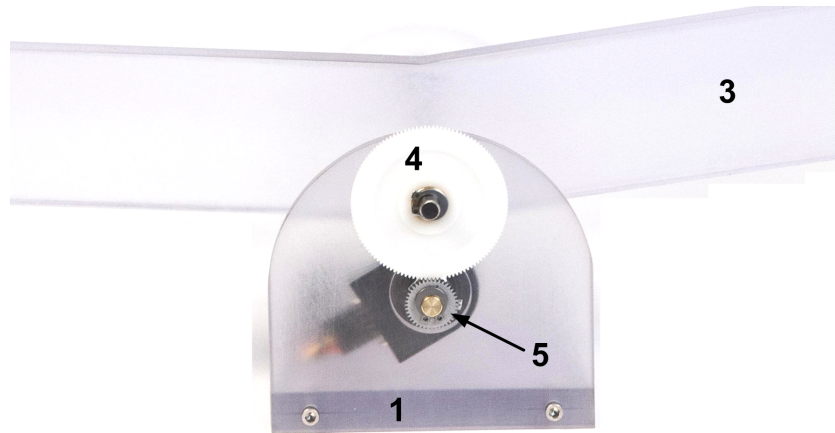
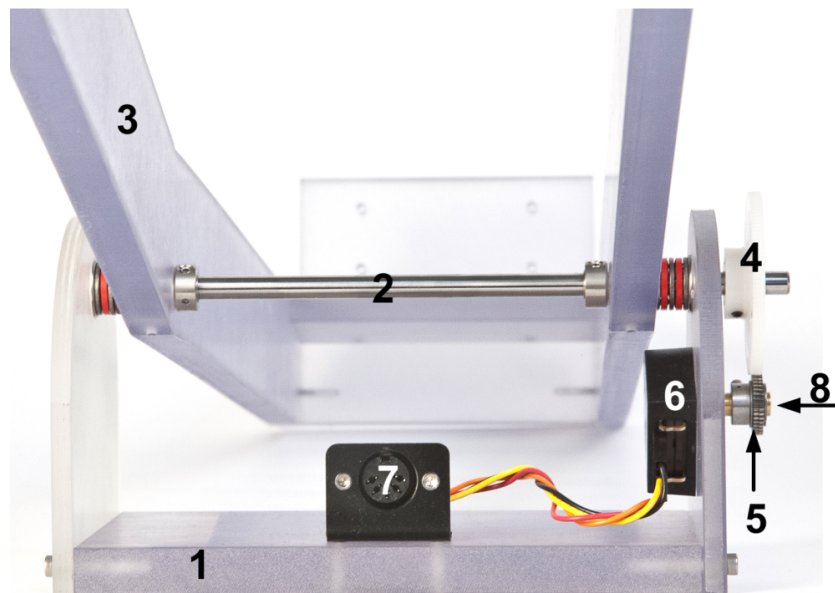
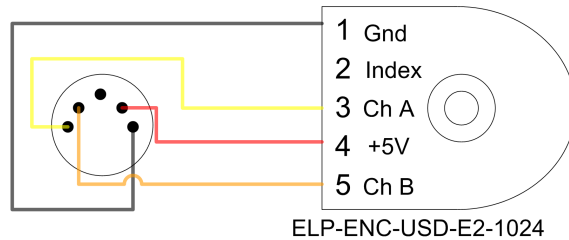

Figure 2.1: SEESAW-E Nomenclature
Figure 2.2: SEESAW-E Fulcrum Close-Up
Figure 2.3: Wiring Diagram of the SEESAW-E Encoder
Table 2.1 provides a list of all the principal elements composing the SEESAW-E system. Each of these elements is located and identified, through a unique identification (ID) number, as represented in Figure 2.1 and Figure 2.2, above.
The SEESAW-E tilt angle is measured with one optical encoder, which is represented in Figure 2.1 and Figure 2.2, above, by component #6. The encoder model used in the SEESAW-E is a US Digital S1 single-ended optical shaft encoder. It offers a high resolution of 4096 counts per revolution (i.e. 1024 lines per revolution with two channels in quadrature).
The internal wiring diagram of the SEESAW-E encoder is depicted in Figure 2.3. The standard 5-pin DIN connector shown in Figure 2.3 is also pictured as component #7 in Figure 2.2.